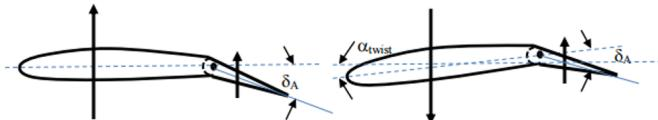

Figure 4.2: Aileron reversal.
- When the aileron goes down, the rear part of the wing creates extra lift, causing extra torsion, as depicted in figure 4.2. This reduces the angle of attack which reduces the total lift of the wing. If the twist angle is large enough, it might even decrease the wing lift instead of increasing it. This phenomenon is known as **aileron reversal**.